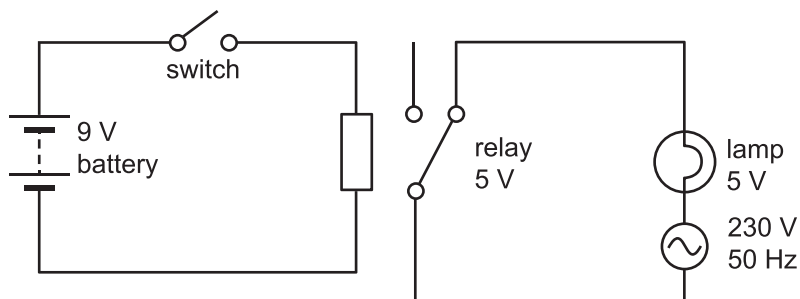

Figure 9
Figure 9 shows a simple circuit where an AC lamp is turned on by using a relay.
- c. Explain the working of the relay switch in Figure 9. 2 marks